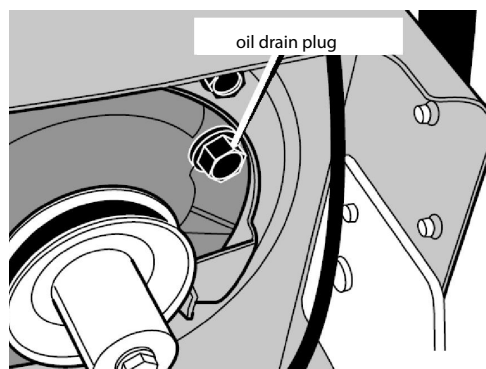

Figure 10: Oil drain plug on 600050B/600050BCE
2. Remove the oil drain plug as shown in Figure 10.